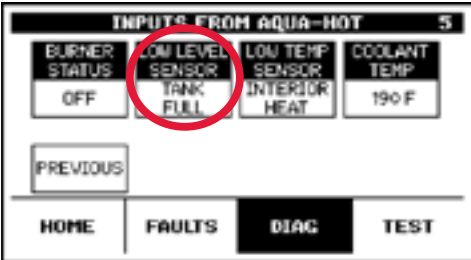

Figure 75
7. Pay attention to the “LOW LEVEL SENSOR” item on this page. See Figure 75.